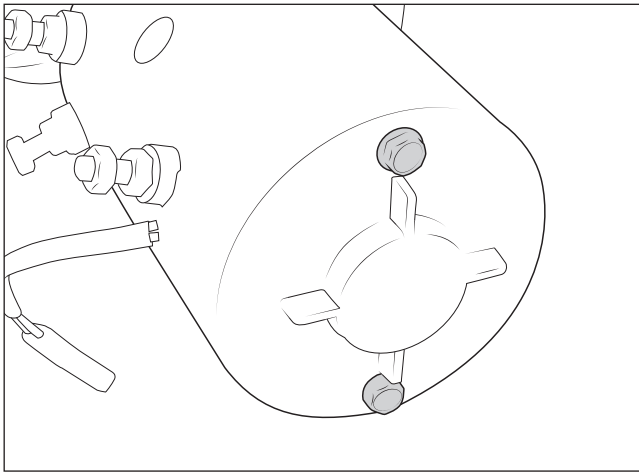

Figure 11
1. Remove the two (2) bolts holding the winch motor (fig. 11). **DO NOT SLIDE THE WINCH MOTOR BACK MORE THAN 3/8" OR THE BRUSHES WILL UNSEAT.**